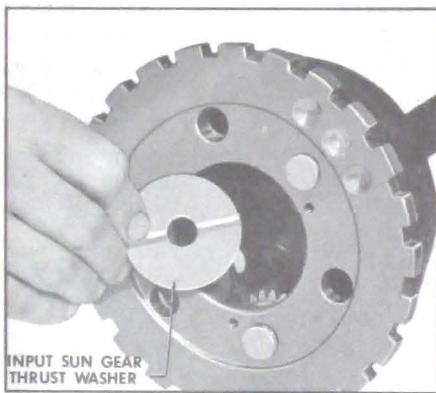

Figure 5-275
6. Install the input sun gear thrust washer with the oil groove facing input sun gear. See Figure 5-275.